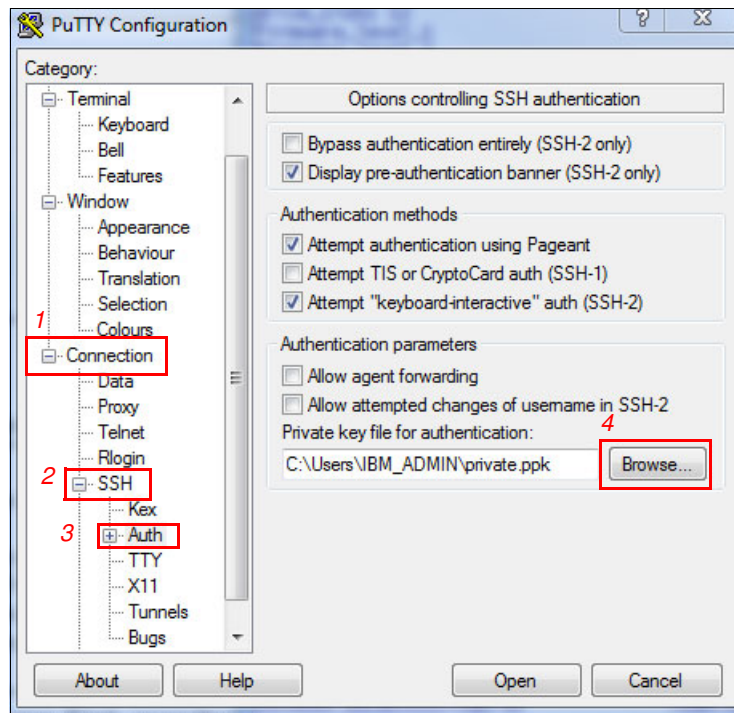

Figure 7-21 Set private key for PuTTY SSH session
2. Configure the private key for this session by making the selections, as shown in steps 1, 2, and 3 of Figure 7-21. click **Browse** (step 4) to locate the private key file.